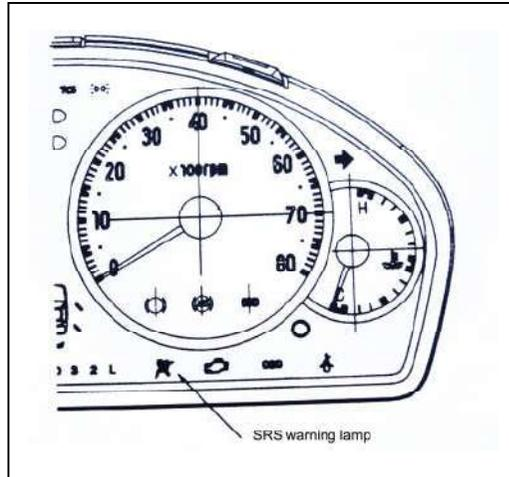

Fig 19-29
②Turn the ignition switch to “ON”。
③Does the SRS warning lamp illuminate for about 6-8 seconds and then go out for 5 seconds or more?(See fig 19-29)